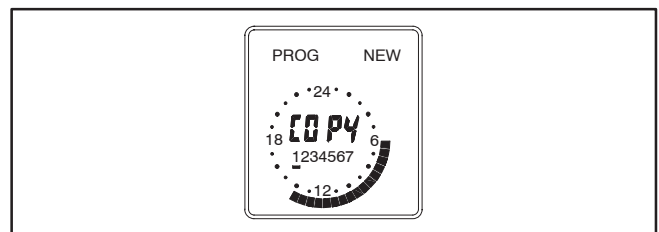

FIGURE 15. COPY EXERCISE MENU
- 1.. Once a set exercise program has been saved, press the selector button (⤵) to display the copy menu (see Figure 15).